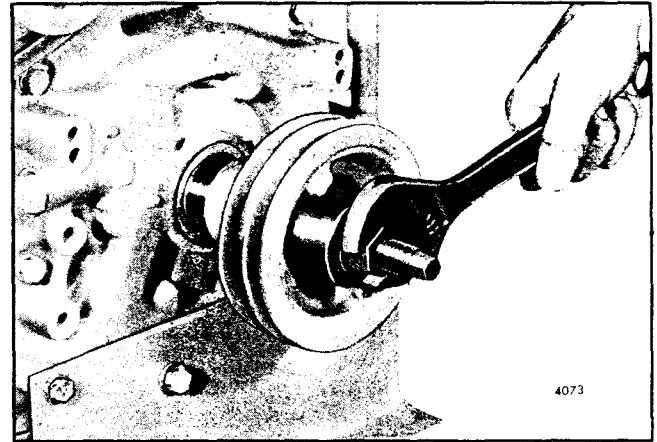

Fig. 2 - Installing Crankshaft Pulley Using Installer J 7773
5. Install a rigid type pulley on an In-line or 6V engine with installer J 7773 as shown in Fig. 2. Then remove the installer.